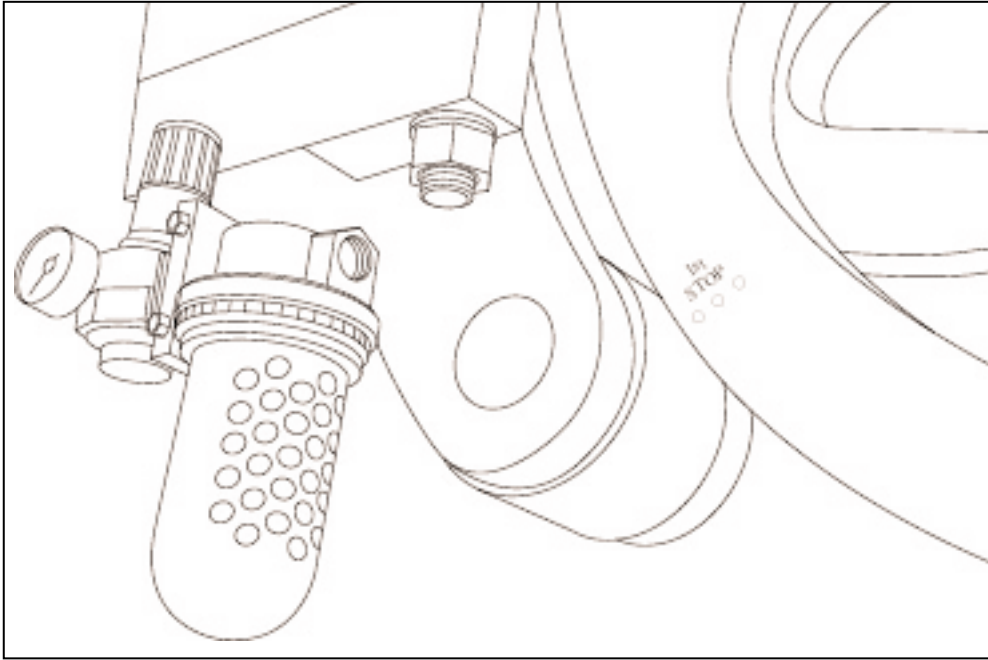
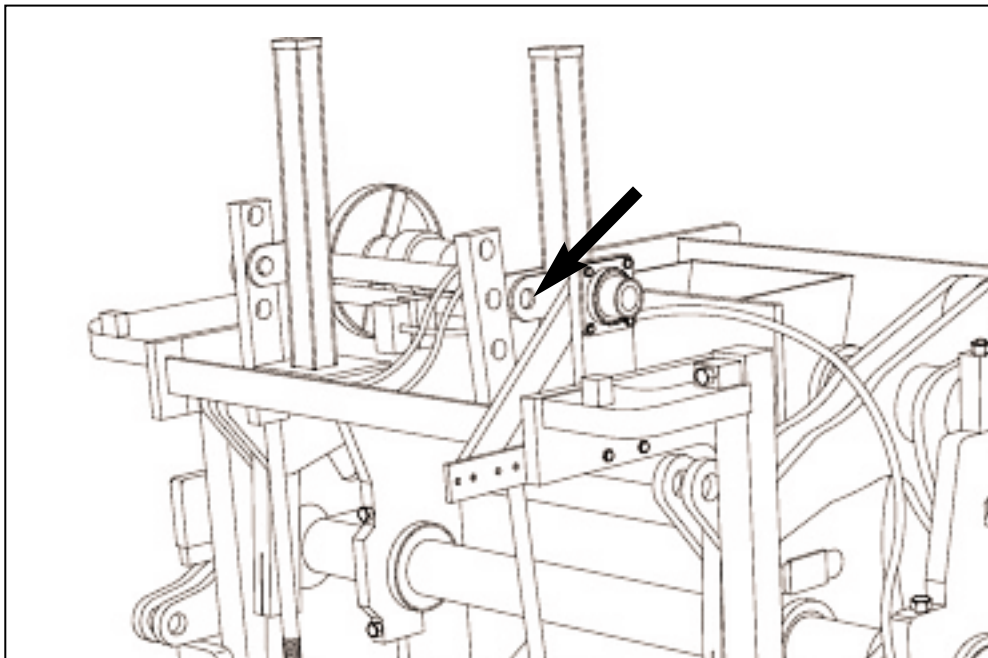

Figure 4.19 "FIRST STOP" (R.H. side of machine).
Figure 4.20 DISCONNECTING THE AUTOFEED LINKAGES.
4.2.2 Run machine to "first stop" (see figure 4.19.) Turn off clutch and drive motor, and manually lower the autofeed to its lowest position. Disconnect the two autofeed linkages at the top (see figure 4.20).